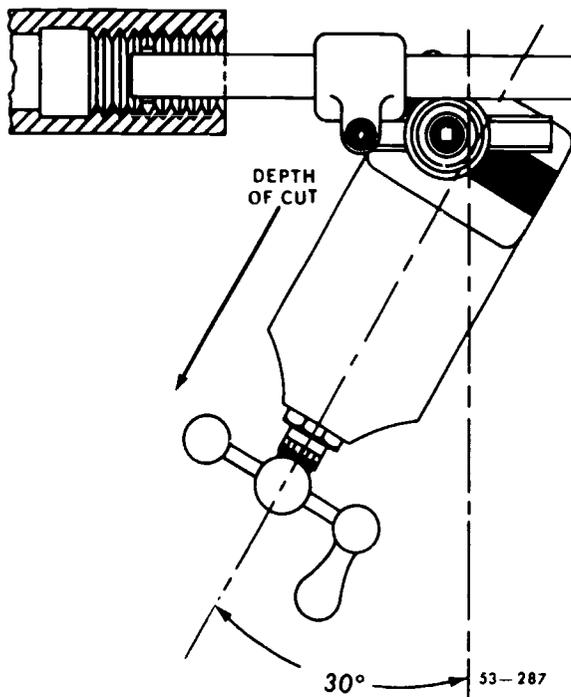

Figure 152. Position of compound rest for internal threads.
**10-23.** The compound rest in internal threading is normally positioned 30° to the left of the perpendicular position, as shown in figure 152. If there is insufficient clearance between the compound rest and the work, lathe chuck, or drive plate, position the compound rest 180° from the position shown in figure 152. The feed for successive cuts is toward, rather away from you, and the setting of the thread cutting stop is therefore reversed. Due to the extension of the cutting tool from the toolpost, cuts must be lighter, and overhang should be reduced to a minimum in both tool and work setup. An extra finishing cut should be taken without changing the setting of the compound rest.